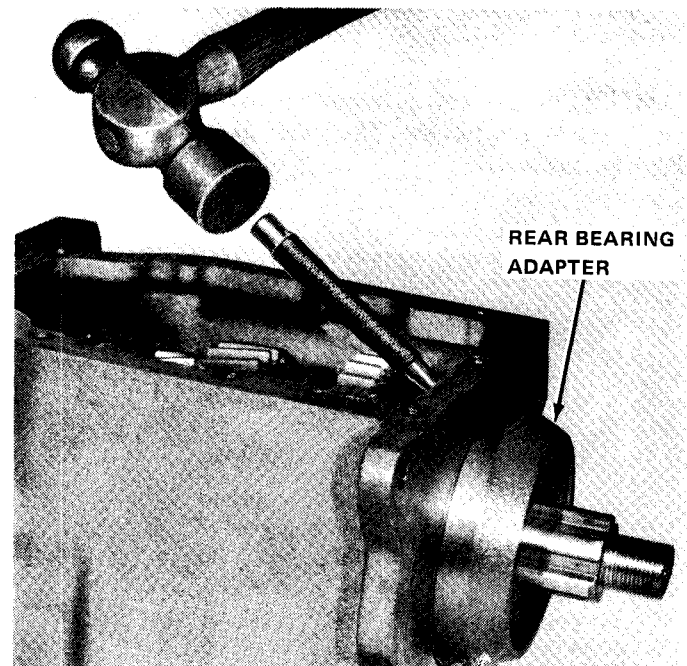

Fig. 6-7 Removing Rear Bearing And Adapter Assembly
- (9) Remove rear bearing and adapter assembly using brass drift and hammer. Drive adapter out rear of case with light hammer blows (fig. 6-7).